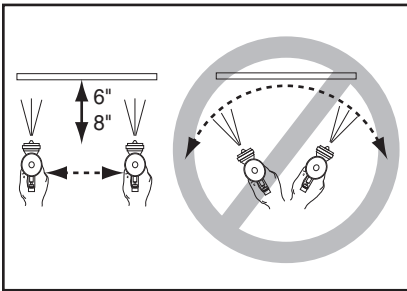

Figure 4. Spray technique.
8. Keep the gun tip perpendicular, equidistant, and 6-8" from the work (as shown in **Figure 4**) when spraying. Do not allow your wrist to bend. This will cause the gun to arc across the surface and distribute the material unevenly, possibly creating sags and dry spots.